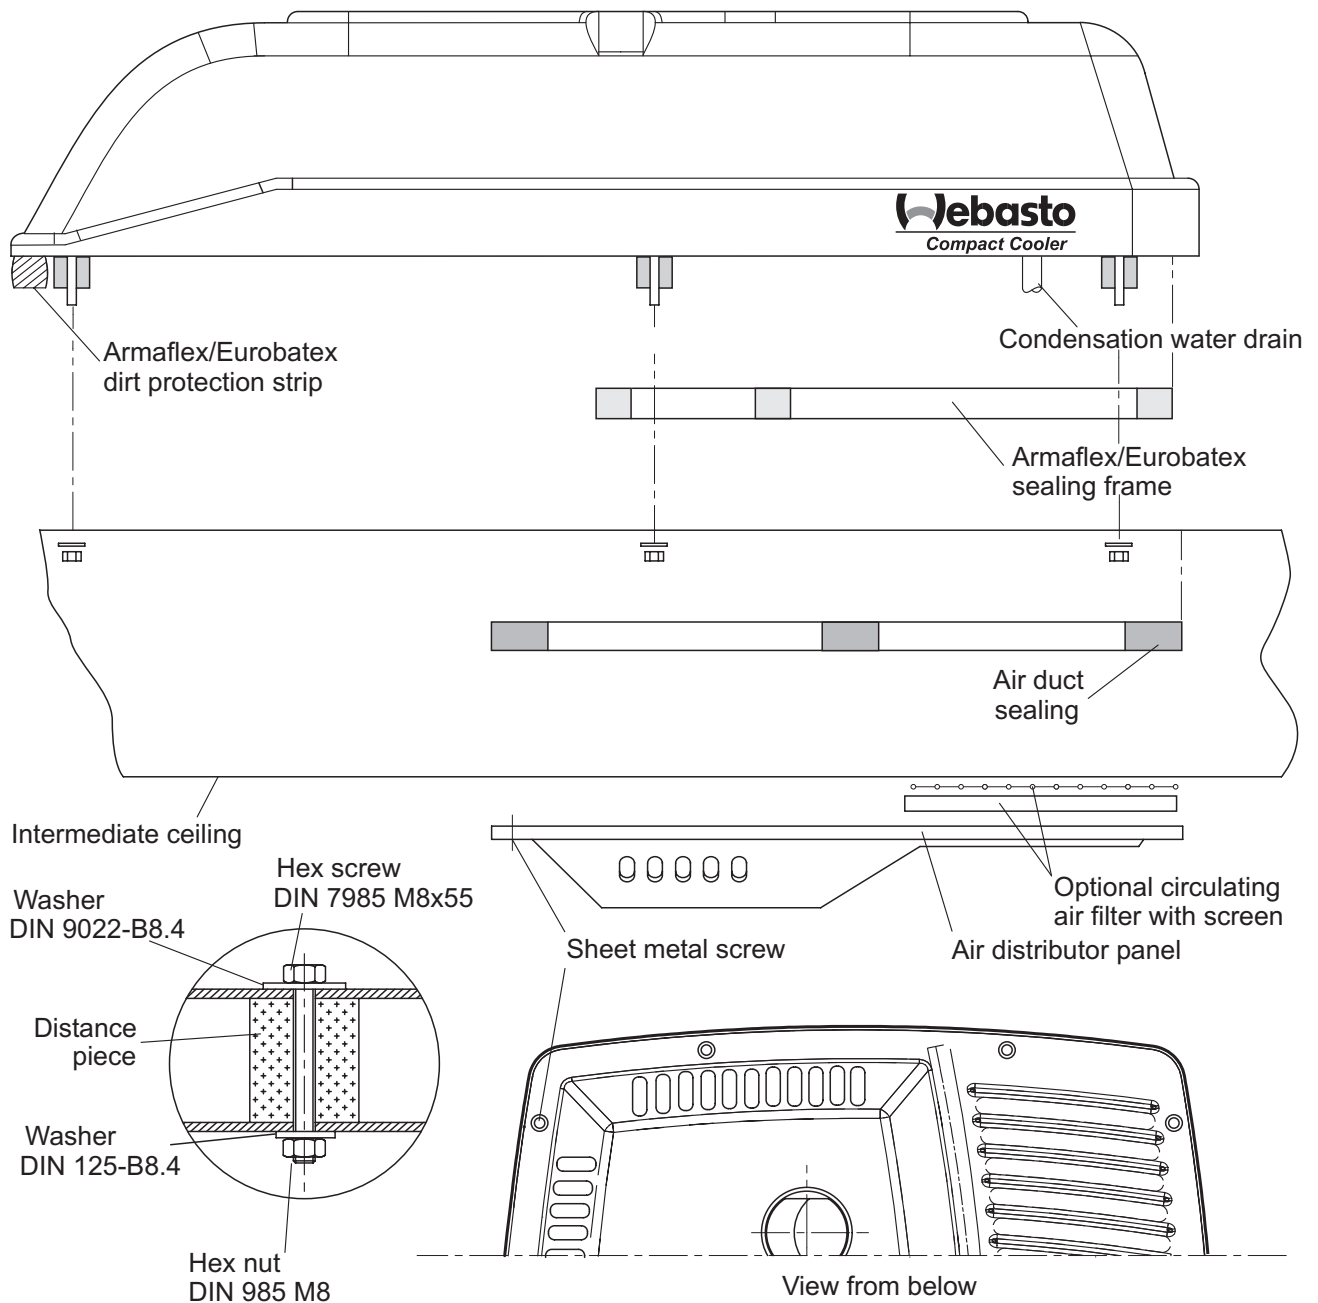

Fig. 408 Installation of the base plate
2. Position the base plate on the roof with the weatherseal, align it and position spacer discs underneath the six fixing points. Place six M8 bolts with washers in the holes (see Fig. 408).
6. Position the air distribution panel as shown in Fig. 408 and fasten it to the intermediate ceiling or to suitable mounting brackets provided by the customer with 10 self-tapping screws. If necessary, insert a grille for the circulating air filter and insert the circulating air filter in the intake area of the air distribution panel first.
6. Position the air distribution panel as shown in Fig. 408 and fasten it to the intermediate ceiling or to suitable mounting brackets provided by the customer with 9 self-tapping screws. If necessary, insert a grille for the circulating air filter and insert the circulating air filter in the intake area of the air distribution panel first.